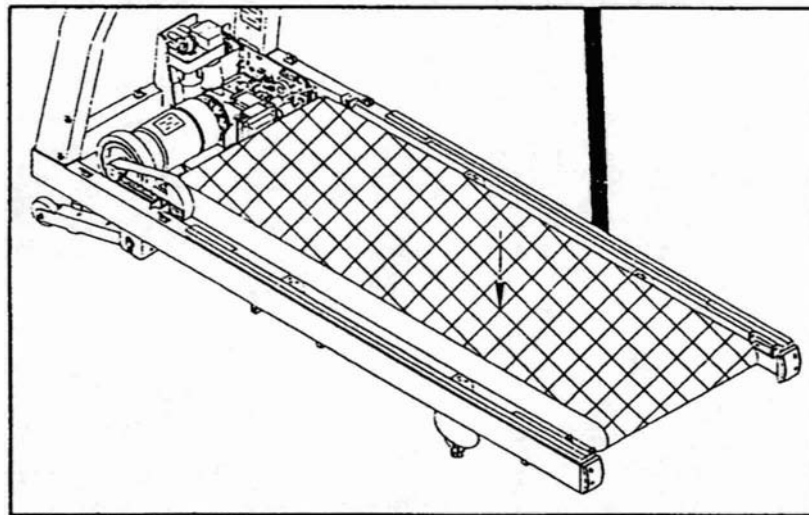

Fig.13
1. Place new running belt. (see Fig.13)